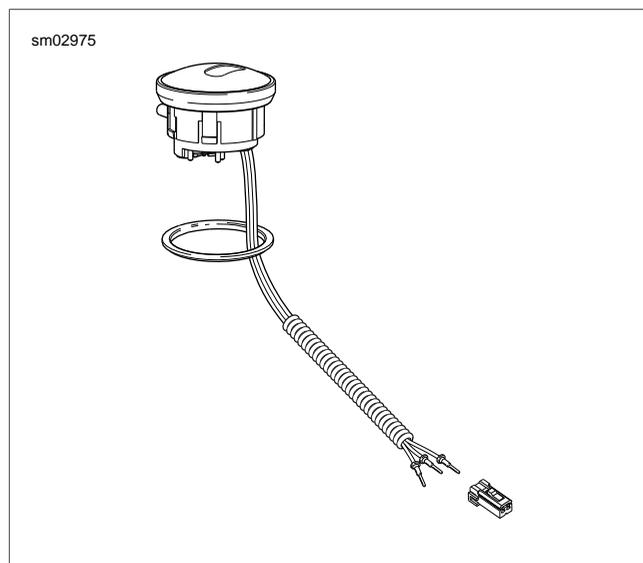

Figure 8-88. Fuel Gauge (FLHR/C)
6. Route pin housing and convoluted tubing forward and then inboard between front of crossover hose fitting and bottom of fuel tank. Connect fuel gauge connector [117], 4-place Multilock. Feed connector into tunnel of fuel tank. See lower frame of Figure 8-88.